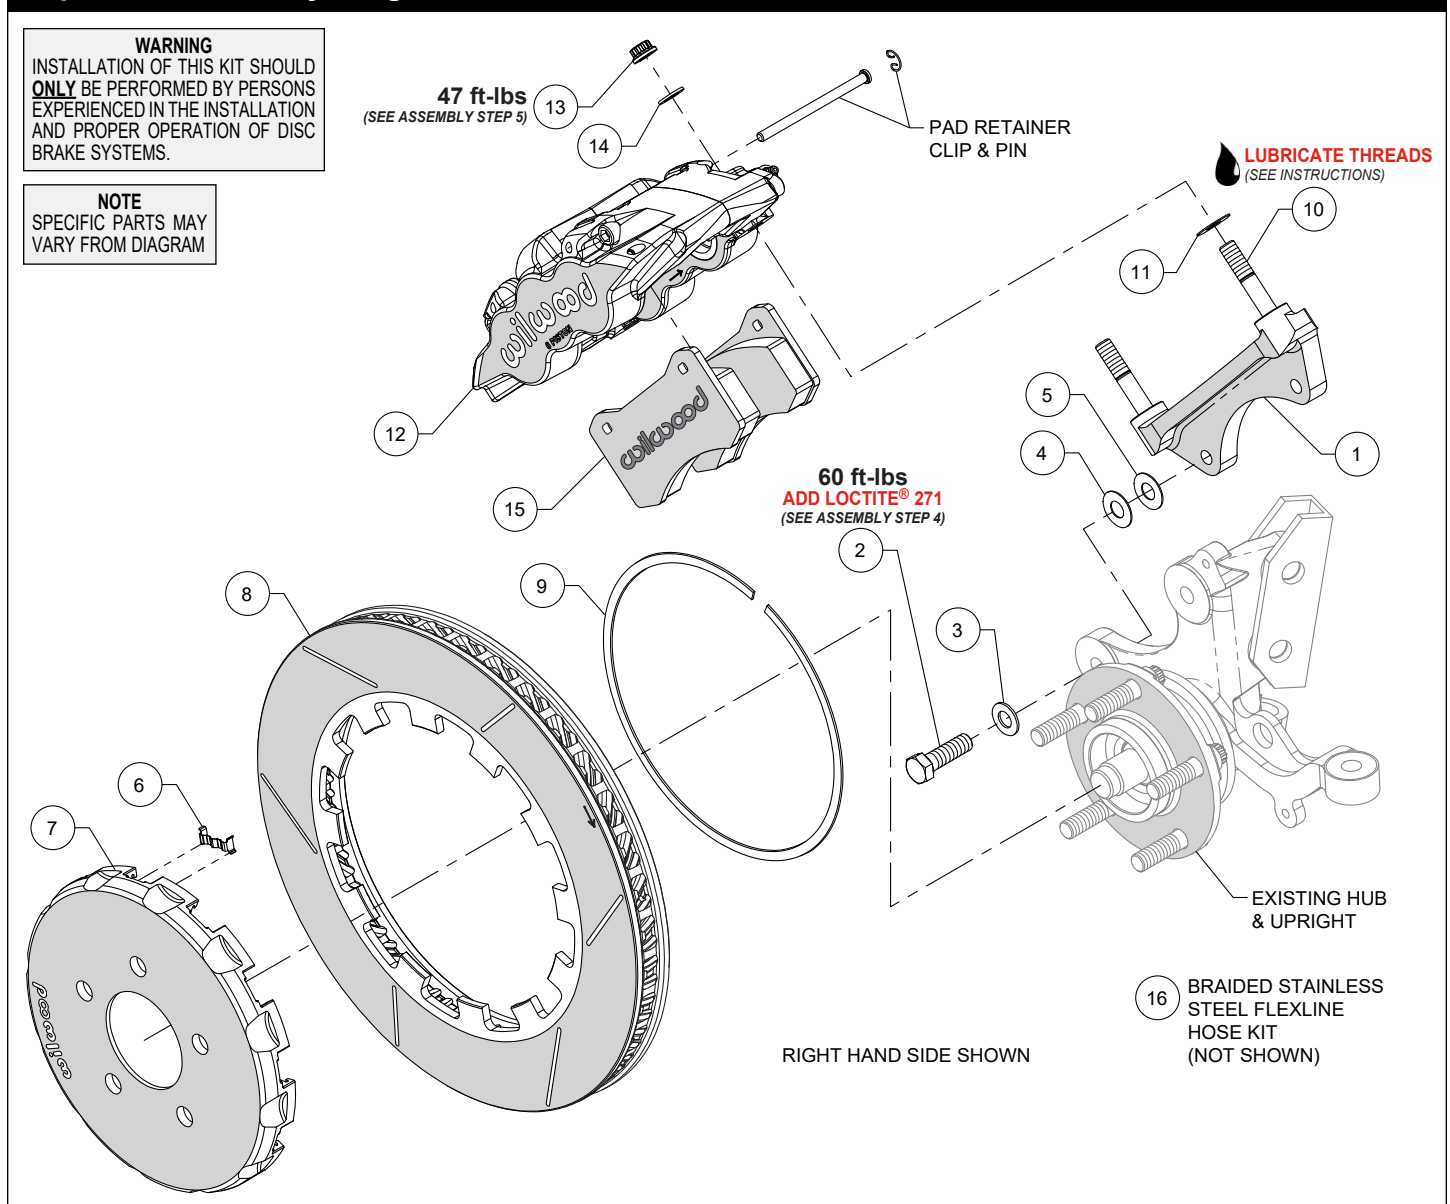

Figure 1. Typical Installation Configuration
NOTE: Numbers in parenthesis refer to the parts list and Figure 1 on the preceding pages.
STEP 1 The caliper mount bracket (1) should initially be installed with clean, dry threads on the mounting bolts. Orient the bracket, as shown in Figure 1 and Photo 1, and install using bolts (2) and washers (3). Initially place one .033" thick shim (4) on each bolt between the bracket and upright, Photo 2 (arrow). Temporarily tighten the mounting bolts. **NOTE:** The bracket must fit squarely against the mount bosses on the upright. Inspect for interference from casting irregularities, machining ridges, burrs, etc. Later, after the caliper alignment has been checked, the mount bolts will be secured using red Loctite® 271.
STEP 2 Insert the dynamic mount wear clips (6) into the slots in the hat (7), Photo 3. Orient the rotor (8) as shown in Figure 1 and Photo 4, with the flush side of mount lugs facing the hat. Secure the rotor to the hat using the snap ring (9) by simultaneously pushing down on the rotor and installing the ring into the groove in the hat, as shown in Photo 5. Carefully inspect snap ring to ensure complete engagement in the groove. Refer to Wilwood's data sheet DS-1485 (available at www.wilwood.com/Pdf/DataSheets/ds1485.pdf) for complete dynamic lug drive installation instructions.
STEP 4 NOTE: This kit contains distinct right and left hand calipers that must be mounted in a specific direction, as described below. Lubricate the caliper mounting studs (10) with lightweight oil. Initially place one .030" thick shim (11) on each stud between the caliper and the bracket, as shown in Figure 1 and Photo 7. Mount the caliper (12) onto the bracket (1) using lock nuts (13) and washers (14), Figure 1. Temporarily tighten the lock nuts. Ensure that the caliper is mounted so the largest pistons are at the rotor exit end of the caliper, in relation to the direction of the rotor. View the rotor through the top opening of the caliper.
The rotor should be centered in the caliper, Photo 8. If not, adjust by adding or subtracting shims (4 and/or 5) between the bracket and the upright. Always use the same amount of shims on each of the two mounting bolts. Once the caliper alignment is correct, remove the bracket mounting bolts (2) one at a time, apply red *Loctite*® 271 to the threads, and torque to value shown in Figure 1.
STEP 5 Remove the caliper (12), then remove the two pad retaining pins from the caliper by carefully popping out the pin retaining clips and sliding out the pins, Figure 1. Insert the brake pads (15) into the caliper from the bottom, Figure 1 and Photo 9. With the friction material facing the rotor, secure the brake pads in place with the pad retaining pins and clips. Reinstall the caliper onto the caliper mounting bracket and temporarily tighten the lock nuts (13). Check that the top of the brake pad is flush with the outside diameter of the rotor, Photo 10. If not, adjust by adding or subtracting shims (11) between the caliper and the bracket. After the caliper pad height is set, torque the caliper lock nuts (13) to value shown in Figure 1.
STEP 7 Attach supplied brake line to caliper. **NOTE:** OEM rubber brake hoses generally cannot be adapted to Wilwood calipers. Install Wilwood's stainless steel braided flexline hose kit (16), P/N 220-6458 included with this kit (not shown). The caliper inlet fitting is a 1/8-27 NPT. Use the included steel adapter fitting at the caliper (use PTFE tape on the pipe threads of adapter fitting for proper sealing to caliper). **Ensure hoses are routed to prevent contact with moving suspension, brake or wheel components.**